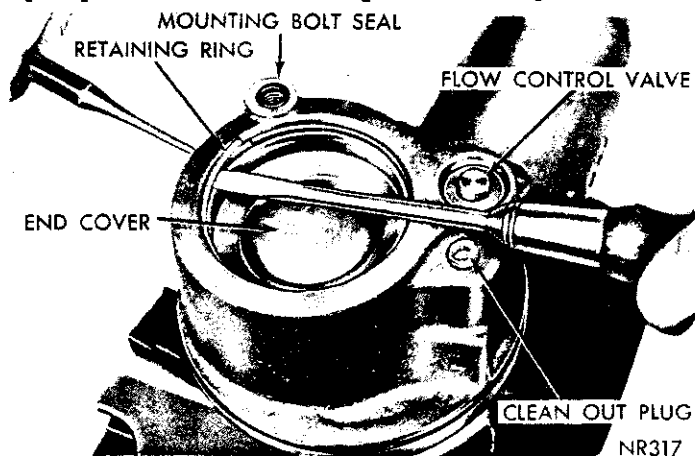

Fig. 25—Removing End Cover Retaining Ring
around until one end of ring lines up with hole in pump body. Insert punch in hole far enough to disengage ring from groove in pump bore. Remove ring from body (Fig. 25).
(1) Remove clean out plug with allen wrench (Fig. 25).
(2) Wash all parts in clean solvent, blow out all passages with compressed air and air dry all cleaned parts.
(3) Inspect drive shaft for excessive wear and seal area for nicks or scoring. Replace if necessary.
(4) Inspect end plates, rollers, rotor and cam ring for nicks, burrs, or scratches. If any of the components are damaged to a degree that the efficiency of the pump is affected it is recommended that all the interior parts be replaced.
(5) Inspect pump body drive shaft bushing for excessive wear. Replace pump with pump partial assembly if badly worn or scored. Pump partial assembly